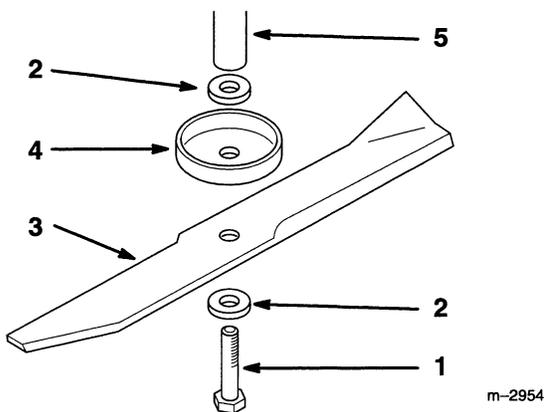

Figure 25
3. Remove the bolt, washer, blade, cup and second washer (Fig. 25). A block of wood may be wedged between the blade and the mower to lock the blade when you are removing the bolt.